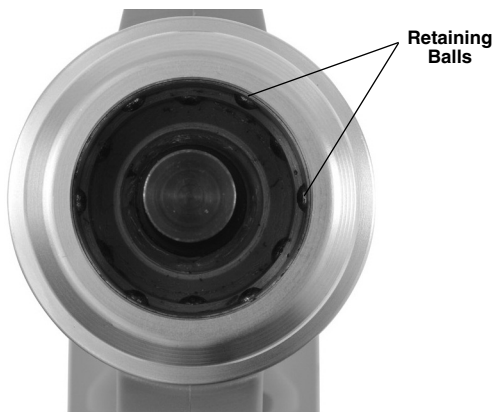

Figure 7 – Inside of QCS Coupling
- Confirm that all retaining balls are present in all openings and that there is no damage. *Figure 7* shows the inside of a complete and clean QCS coupling.
Point the QCS opening down and gently shake any debris out. Visually inspect the QCS opening for any debris. Cotton swabs can be used to wipe out debris. Do not let material build up into the retaining ball pockets (*Figure 7*). The QCS coupling is lubricated for life at the factory. Do not add any lubricant to the QCS coupling,